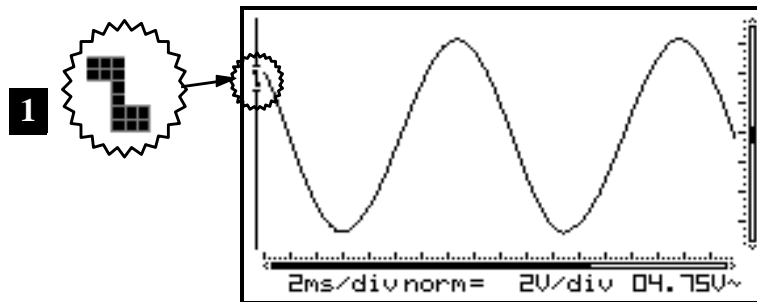

Fig 41
**1. Triggering on the rising slope of the signal:** The screen will only display the signal when a positive slope is "detected", viz. the signal has to rise in vertical direction in order to trigger. (Fig 41)